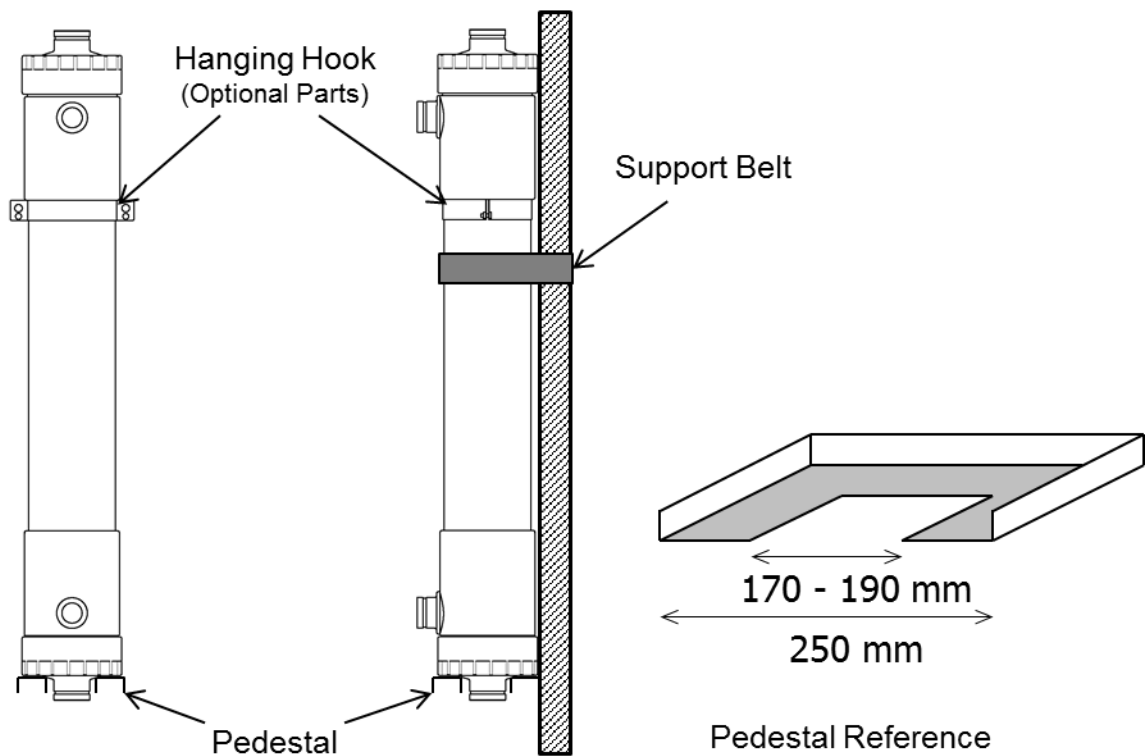

Fig. 3 Installation of the membrane module
4. Put the module vertically on the pedestal in the module rack. Fix the module upright with the hanging hook and/or the supporting belt (see Fig. 3).